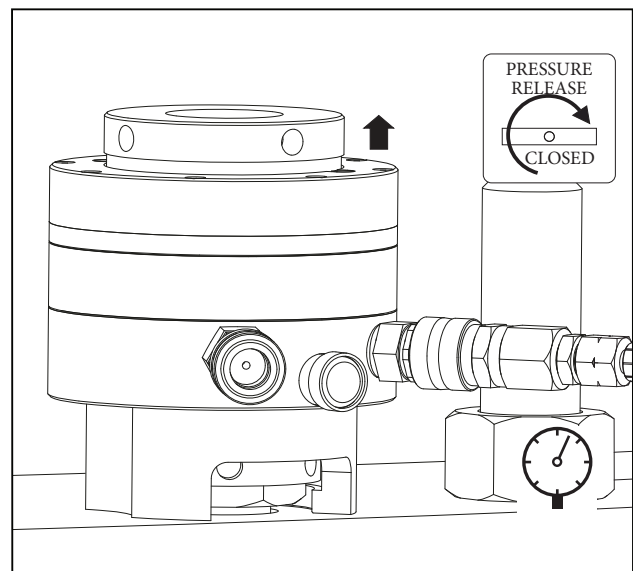

FIGURE 7, PRESSURIZING THE TENSIONER
6. When the calculated hydraulic pressure is reached, stop the pump. Recheck the oil pressure gauge after pump has stopped. Be sure the pressure is stable (not increasing or decreasing). Threads may be visible between the nut and the joint surface at each tensioner. See Figure 7.
Be sure the pressure remains stable (not increasing or decreasing). Threads may be visible between the nut and the joint surface at each tensioner. See Figure 7.
18. When the “second pass” pressure “B” is reached, stop the pump. Recheck the oil pressure gauge after pump has stopped. Be sure the pressure remains stable (not increasing or decreasing). Threads may be visible between the nut and the joint surface at each tensioner. See Figure 7.